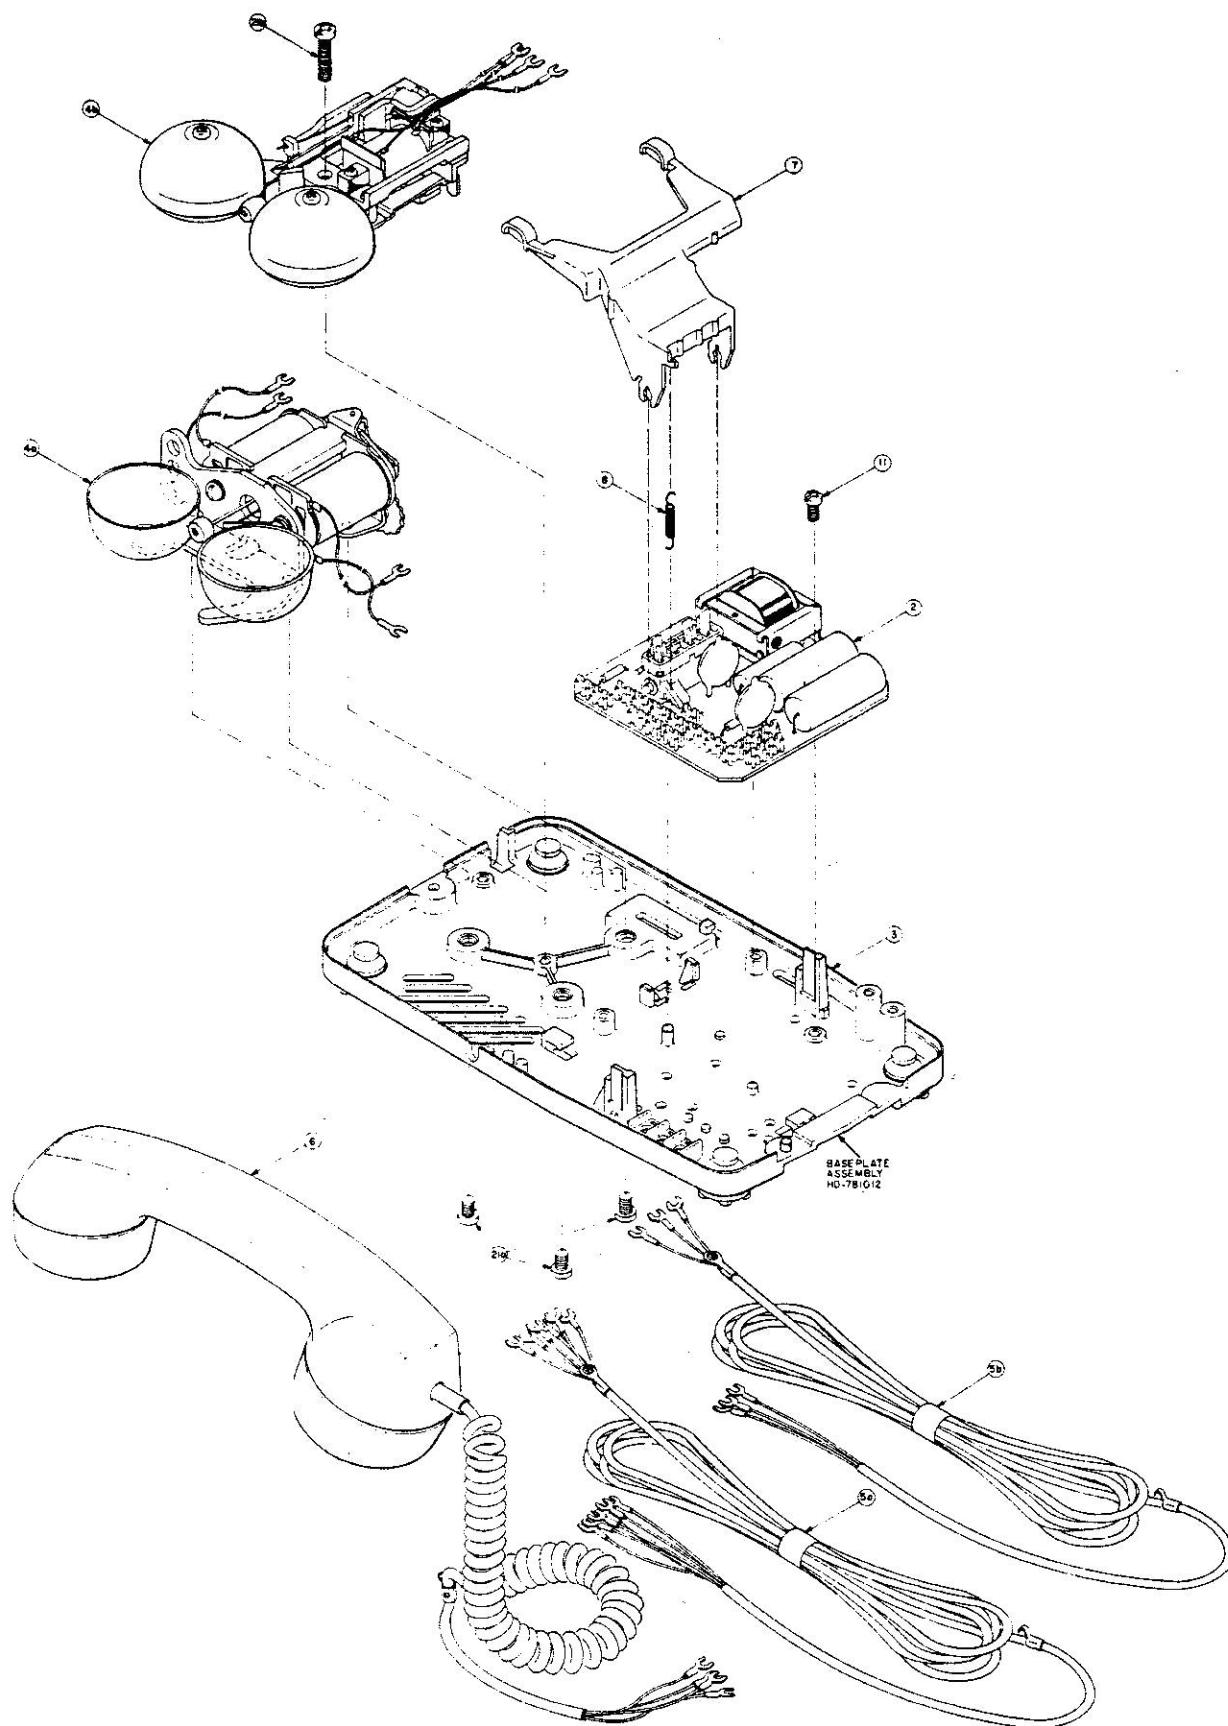

Figure 2. Exploded View of Base Assembly and Handset.
4.05 To remove the Type 45 or Type 48 ringer assembly, refer to Figure 2 and proceed as follows: